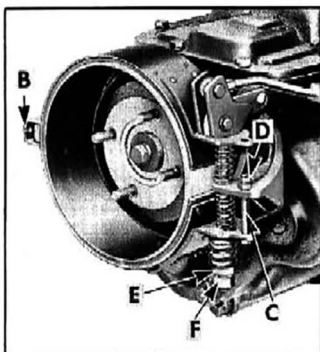

Fig. 55—Propeller Shaft Brake—
1. Set hand brake lever in fully released position and, if necessary, adjust pull rod so lower edge of both cams are flat against the band end. Turn up anchor screw "B" (fig. 55) until there is .010"-.015" clearance between lining and drum.